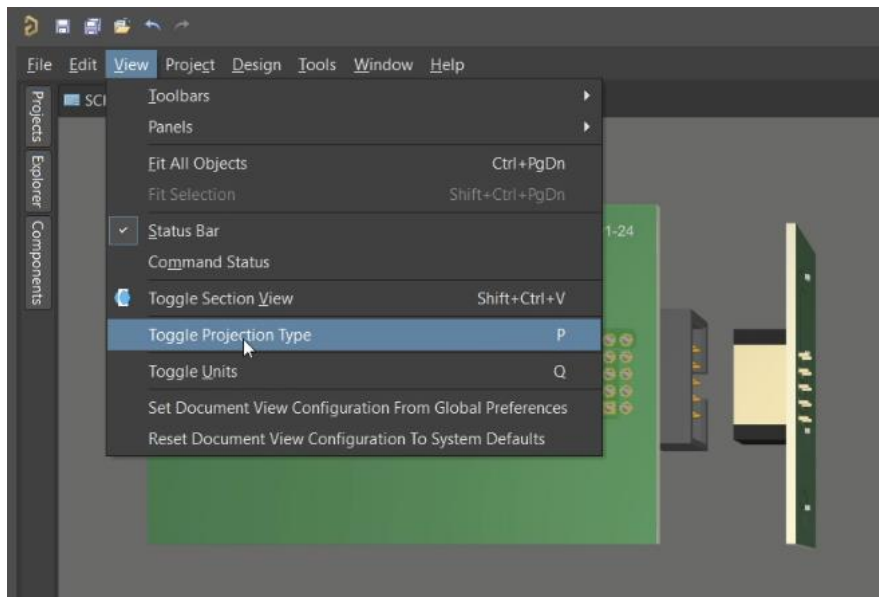

Figure 28. Toggle Projection Type
- a) Let's toggle the Project Type so that alignment can be more productive. Select from Menu **View » Toggle Projection Type**. See Figure 28.